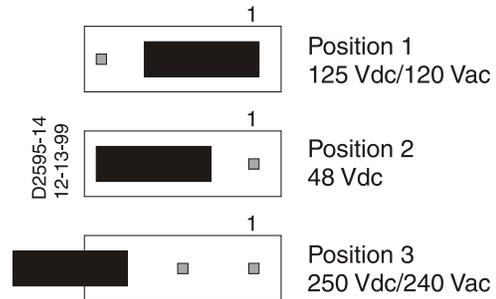
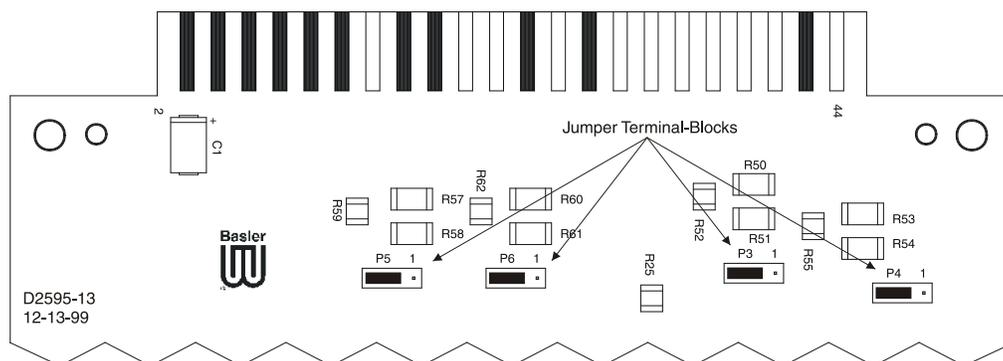

Figure 5-6. Contact Sensing Jumpers
Figure 5-7. Contact Sensing Jumper Locations
Energizing levels for contact sensing inputs V1 through V4 are jumper selectable for operation at three nominal voltage levels. Jumper P3 controls the operating voltage for V1, P4 controls V2, P5 controls V3, and P6 controls V4. Nominal voltage levels of 125 Vdc/120 Vac, 48 Vdc, or 250 Vdc/240 Vac may be selected. Figure 5-6 illustrates the three possible jumper positions for P3 through P6. Input V5 is dedicated to monitoring the relay power supply input and is not jumper selectable.
3. Locate the four jumper terminal blocks (P3 through P6) on the circuit board. The jumper terminal blocks are located on the component side of the circuit board near the rear contact fingers (see Figure 5-7). Each terminal block has three pins and each jumper is factory installed on pins 2 and 3. Figure 5-6 illustrates each of the three jumper positions.